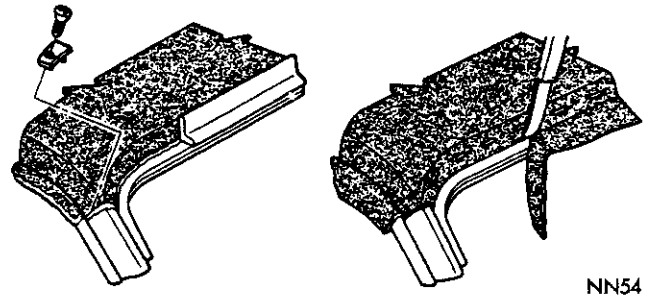
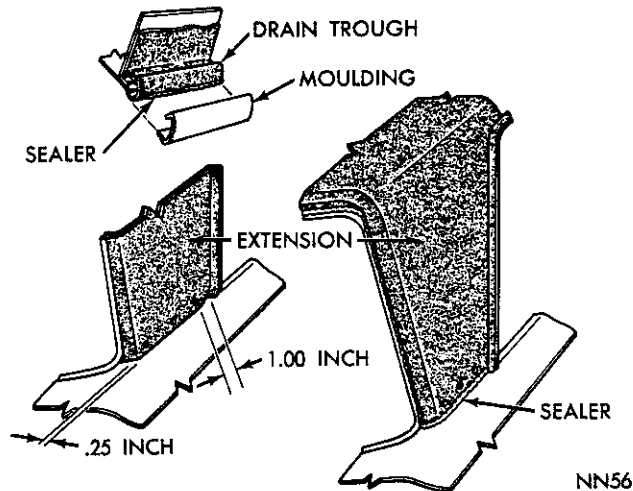

Fig. 7—Trimming and Sealing Cover at Windows
Fig. 9—Sealing Cover at Sides—Sedan
(13) Trim fabric at base of windshield reveal, halfway between upper and lower edges of pillar moulding (Fig. 7).
(14) Trim fabric at base of rear window reveal.
(19) Locate and drill index hole for front pillar moulding upper locating boss (Fig. 7). (Original installation only).
(20) Apply a bead of sealer to edge of cover and blend upward to form a seal over staples and cover edge. Extend seal across trimmed edge on "A" post (Fig. 7).
(21) Locate and punch holes in cover at roof extension belt line.
(22) Trim cover on a line 1/4 inch below belt line moulding holes and curving upward to meet drain trough (Figs. 9 and 10).
(23) Apply a bead of sealer to trimmed edge of cover at roof panel and smooth out to form a seal (Fig. 7).
(24) Apply a 1/4 inch ball of sealer to index studs of pillar mouldings.
(25) Position moulding by inserting a locating pin in index hole and align moulding.
(26) Using hole in moulding as a guide, drill a .120 diameter hole in pillar and fasten in place with a screw (original installation only).
(27) Install side drain trough mouldings (Fig. 9), windshield and rear window mouldings.
(28) Remove masking material and inspect cover for air bubbles.